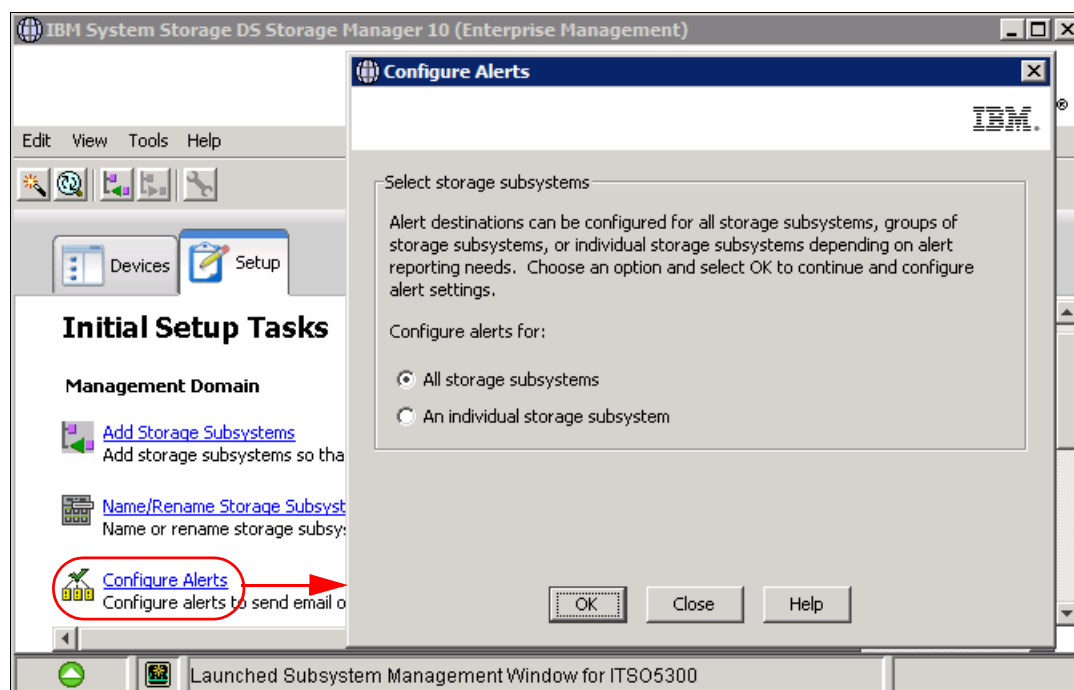

Figure 4-91 Selecting the Configure Alerts option
3. If you right-click your local system in the Enterprise Management window (at the top of the tree) and choose **Configure Alerts**, this applies to all storage systems listed in the Enterprise Management window. If you want to monitor only one subsystem, then click that particular one and select **Edit** → **Configure Alerts**. You can also select the **Setup** tab of the Enterprise Management window, and then select the **Configure Alerts** option. You will be prompted about whether you want to configure alerts for all storage subsystems or any one in particular, as shown in Figure 4-91.